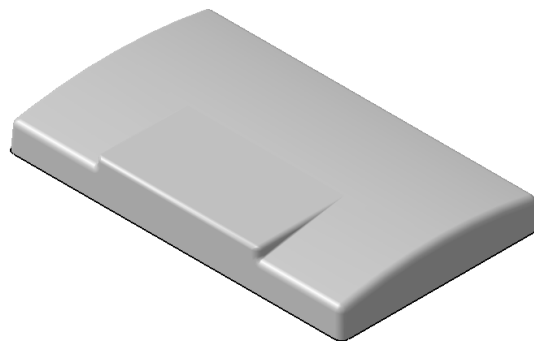

Figure 6-102 Resulting filleted model
9. Choose the **OK** button from the **Edge Fillet Definition** dialog box. The resulting filleted model is shown in Figure 6-102.